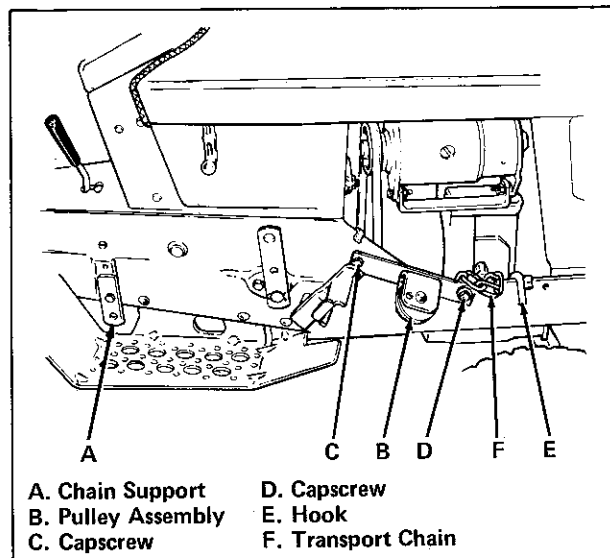

Figure 23. Attaching Parts to Tractor
1. Install chain support (item A, figure 23) to tractor frame using the shortest of the remaining capscrews. Secure with lockwasher and hex nut.